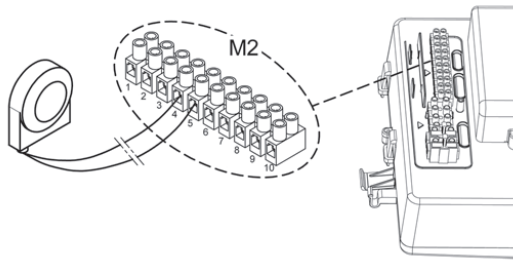

Fig. 15
5. Connect the wires from the Outdoor Sensor to positions 4 & 5 on M2 (Fig. 15). Refit the cover.